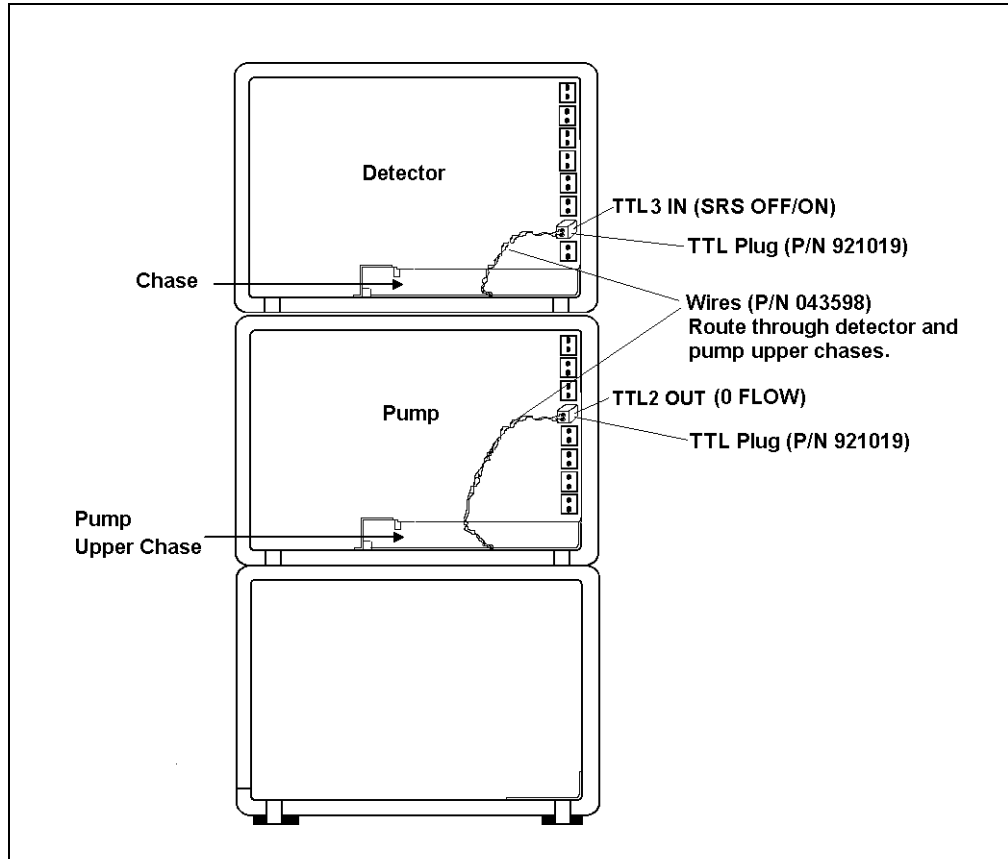

Figure B-6. TTL Connections for SRS Power Control
5. Plug one end of the cable into TTL2 OUT on the pump (see Figure B-6).